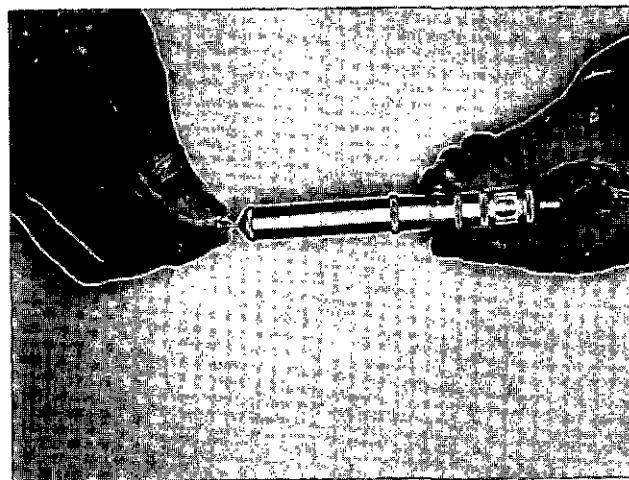

Fig. 2-59. (F60143). Check orifice with the orifice size gauge
- The measurement of the orifice plug diameter can be taken with ST-1332 Orifice Size Gauge. Fig. 2-59. Table 2-5 lists injector orifice plugs with a range of orifice diameters from 0.015 inch [0.38 mm] to 0.070 inch [1.78 mm] for all Cummins injector applications.